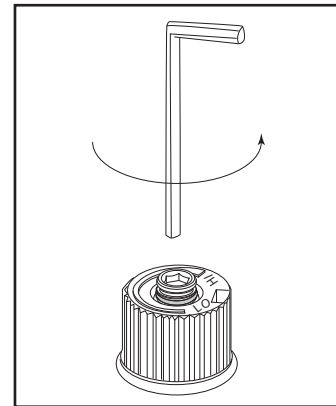

Figure 7.3
- Insert a 5/32" or 4 mm Allen wrench into the hexagonal key-way of the screw (Figure 7.3), rotate it counterclockwise until it is free and extract it.